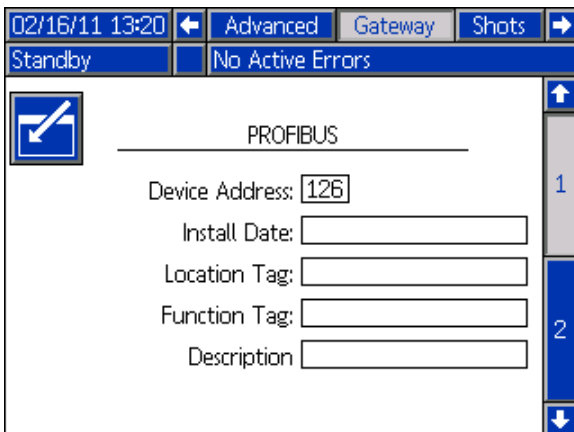

FIG. 7: Example Fieldbus Screen
2. Press the left arrow key once to navigate to the main Gateway screen. See FIG. 7.